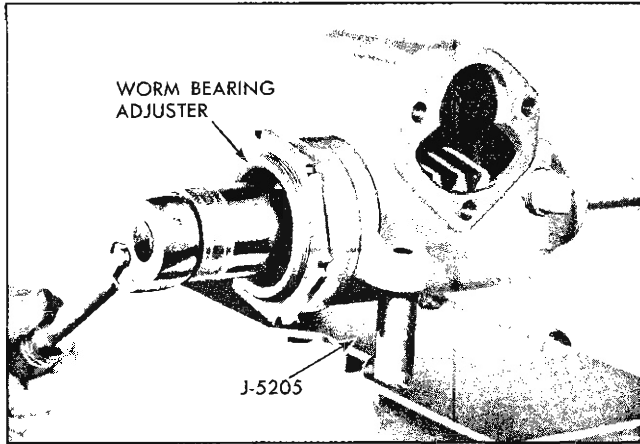

Fig. 9-40 Adjusting Worm Bearing Preload
b. If torque does not meet above specification, loosen worm bearing adjuster lock nut (Fig. 9-40) and turn adjuster to bring torque within  $\frac{3}{8}$  to  $\frac{7}{8}$  lb. in. limits.